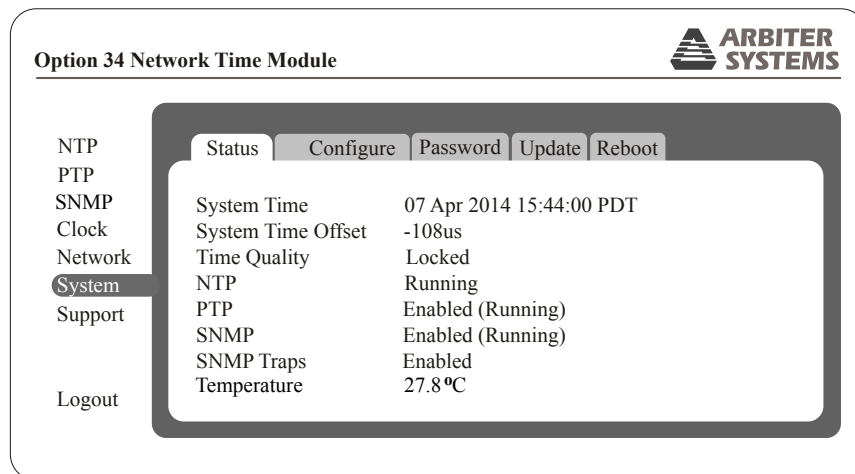

Figure B.8: Startup Page
5. Click the Login button. If you typed in the correct Username and Password, the web interface should appear as shown in Figure B.8.
When logging in to the NTP/PTP Server using the web interface, the opening screen should be the System Status information page. This provides an overview of the operation of the NTP/PTP Server. Figure B.8 illustrates the opening System Status page.